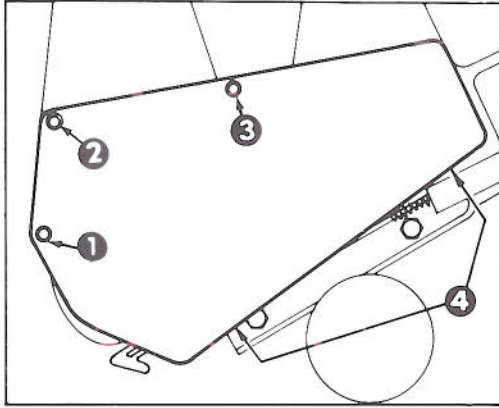

Figure 12
3. Remove (3) self tapping screws, (1) washer and (2) nuts securing belt cover to sideplate (Fig. 12). Set belt cover aside.
2. Remove (3) self tapping screws, (2) capscrews, (1) washer and (2) nuts (Fig. 12) Set belt cover aside.